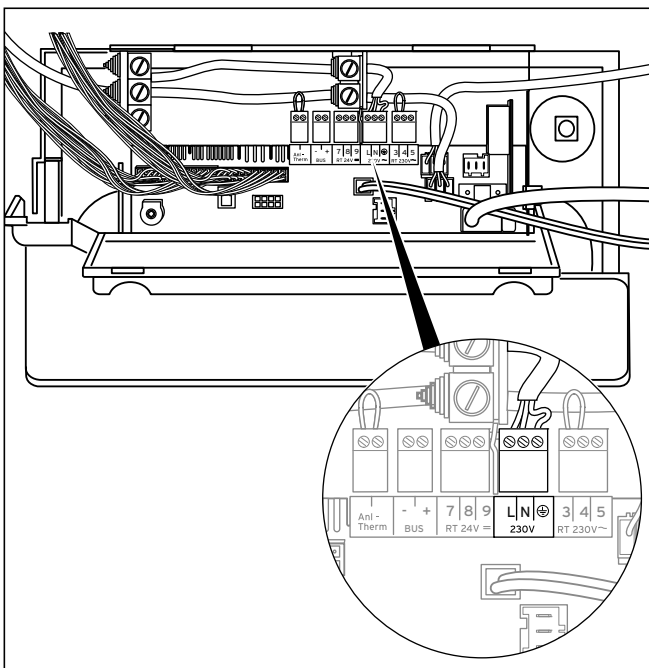

Fig. 5.13 Example for cable routing
- Connect the cores to the plug-in locations in the electronics (L, N and Earth), see Fig. 5.13, using the corresponding ProE plug.
- Connect the cores to the corresponding ProE plugs or plug-in locations of the electronics, as shown in Fig. 5.13.